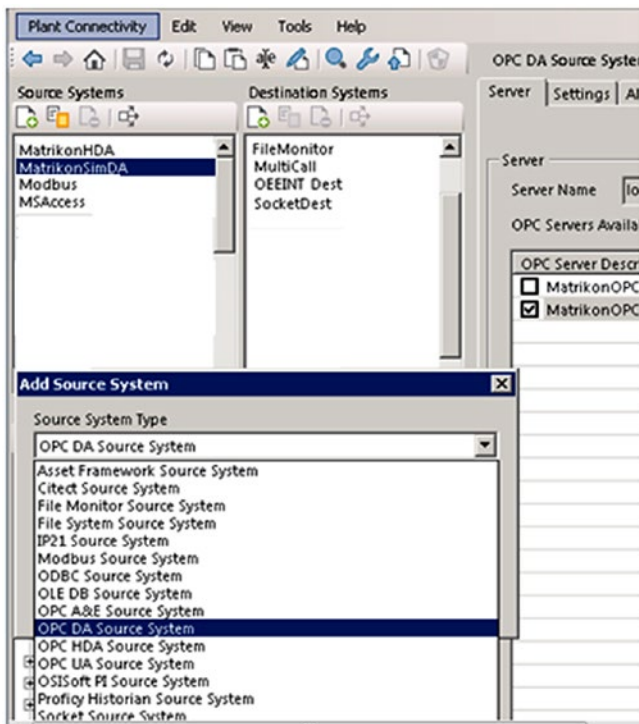

Figure 7-132. Source System Configuration in PCo
8. Select the server details of the source system. See Figure 7-132.